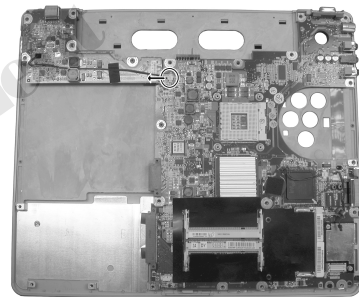

Figure 2-28 Lift the system board
5. Disconnect the right speaker's cable from the system board. (Figure 2-28)